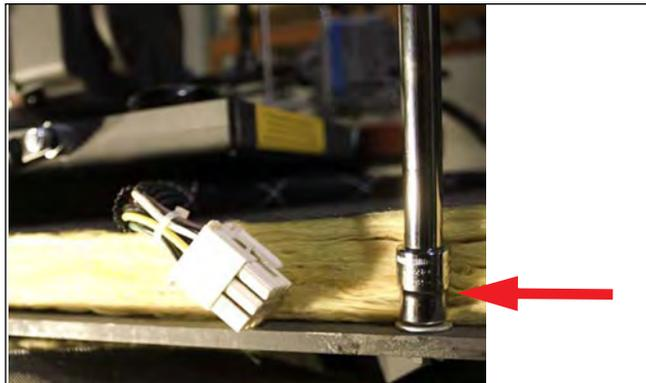

Figure 2-8
15. Using a 10mm socket, or by hand, remove 3 nuts and washers from the mounting studs extending from each side of the top plate of the boiler (**Figure 2-8**).